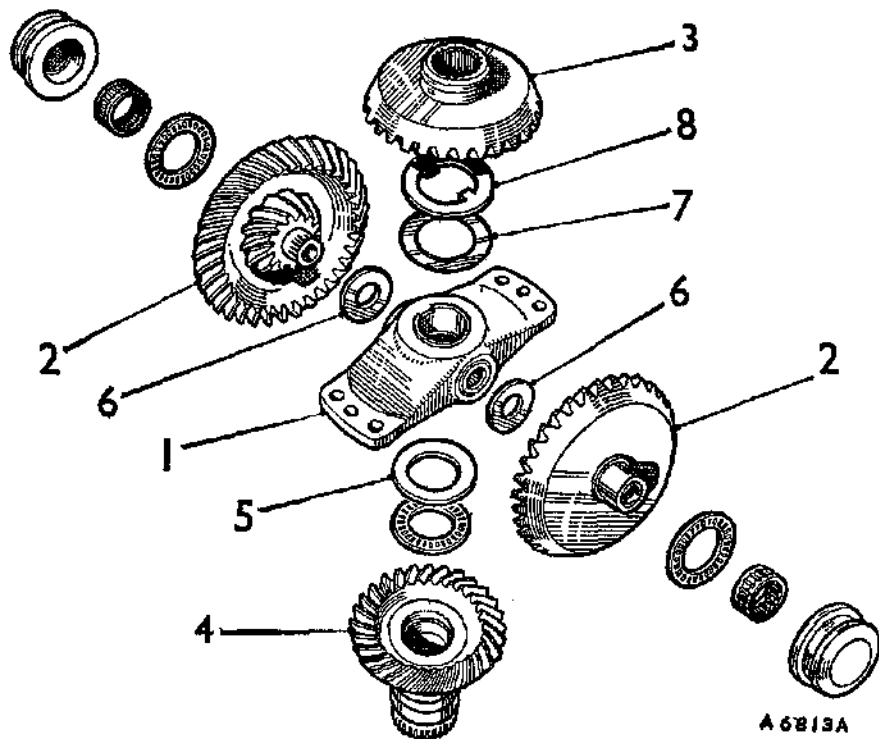

Fig. Fa.42
The gear train is accurately assembled with special equipment to obtain the correct backlash on the various gears and it is not possible to assemble this unit to factory standard without this special equipment. In the event of failure of any part of this unit a new complete gear train assembly must be fitted. The only washer in the gear train which can be renewed is the forward output gear bi-metal washer (8) (see Fig. Fa.42); this is not a selective size washer.
- (8) To dismantle the early-type gear train assembly as shown in Fig. Fa.42, refer to items (16) to (19), with the reassembly sequence given in items (33) to (36).
(33) Carry out items (20) to (23) with the following exceptions: Refer to Fig. Fa.42, and use Service tool 18G 1093 when reassembling this early-type gear train.
(34) Refit the bearings caps to their respective positions (see markings) and using new locking plates, refit and tighten the bearing cap and carrier bolts to the torque figure given in 'GENERAL DATA'.